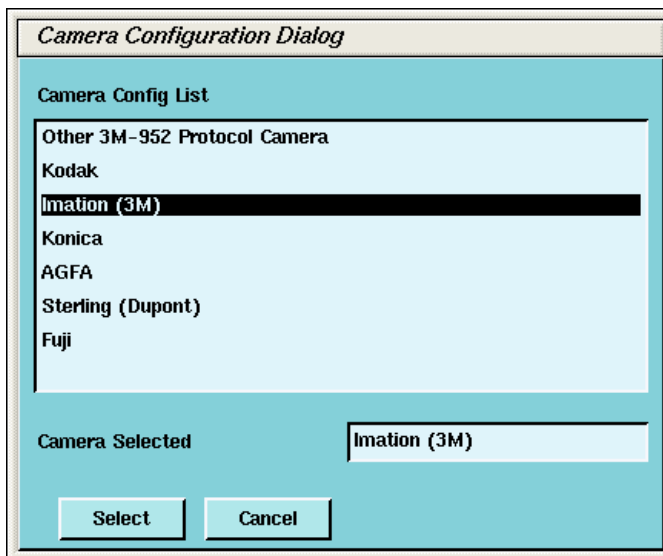

Figure 8-12 Camera Model Dialog (with DASM)
- 5.) To add a new laser camera, click DASM in the camera type dialog box. This brings up a list of available camera models. Select the appropriate model from the list and click SELECT (See Figure 8-12). Now you must configure it.